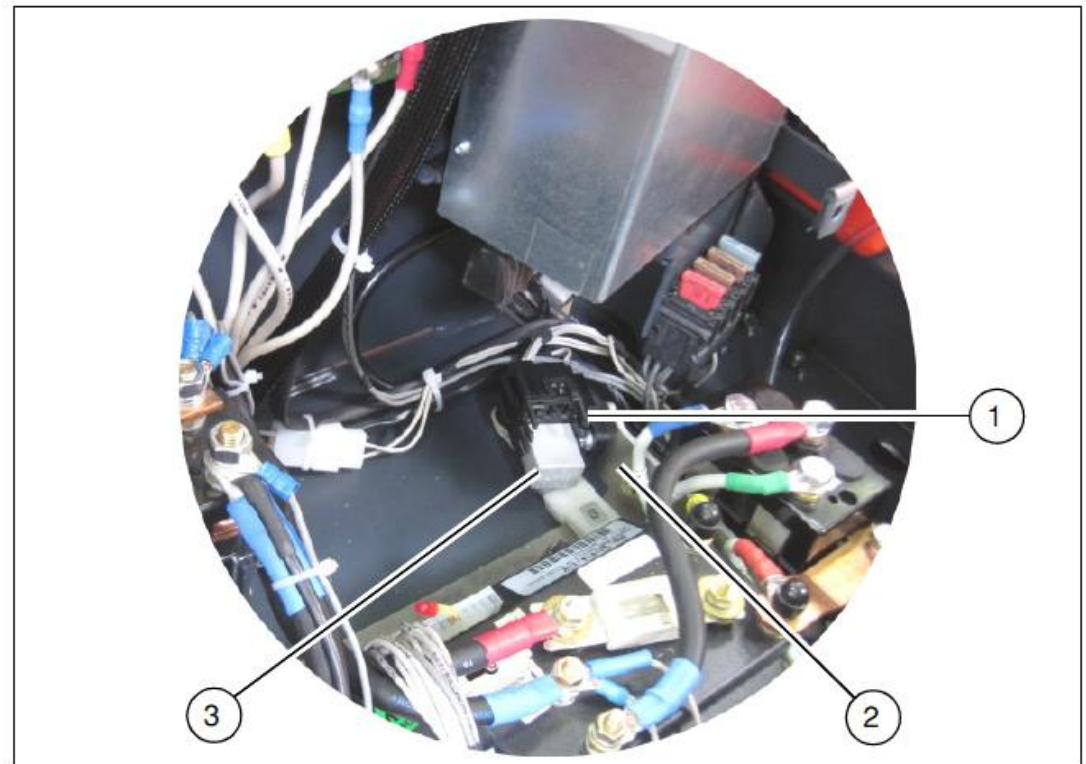

Fig. 6
2. Assemble the holder (Fig. 6/1) for the relay socket to the plate (Fig. 6/2). Plug the relay (Fig. 6/3) in the relay socket.